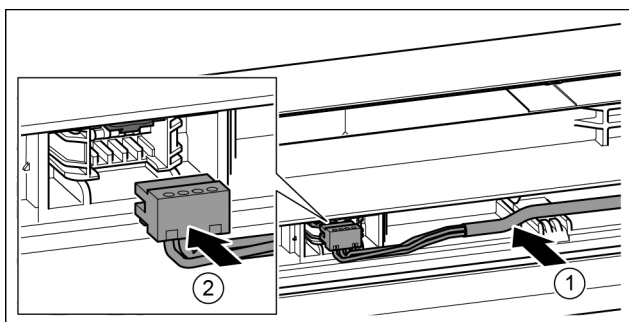

Fig. 38
- Insert the grey cable into the guide in the top door. *Fig. 38 (1)*
- Engage the plug. *Fig. 38 (2)*